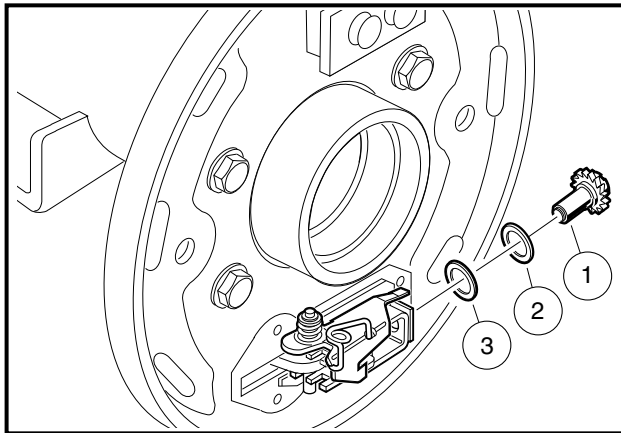

Figure 6-7 Remove Adjuster Wheel
- Self-adjusting brake vehicles only:** Remove the adjuster wheel (1) with two washers (2 and 3) from the backing plate (Figure 6-7, Page 6-6).